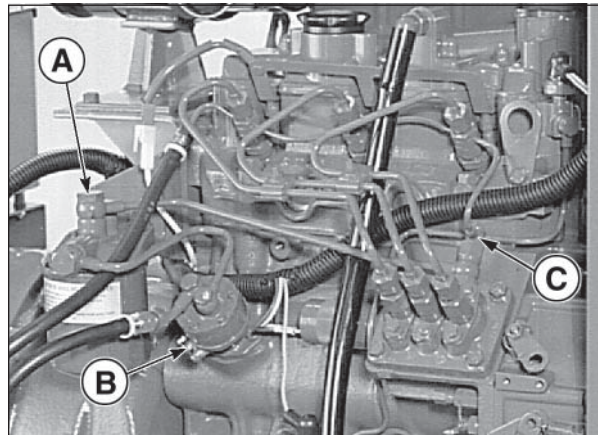

Figure 9: 843NW Fuel System.
2. Loosen bleed bolt “A” (Figure 9) on top of the filter. Pump hand primer “B” on fuel lift pump until pure fuel (no bubbles) escapes from bleed bolt “A”. Tighten bleed screw “A”.